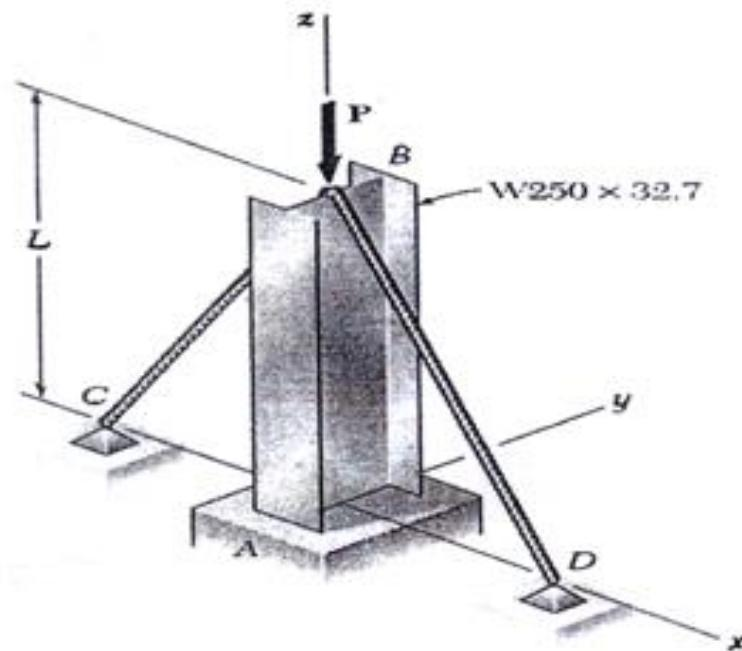

Figure 9
- (b) Column AB carries a centric load P of magnitude 72 kN (Figure 9). Cables BC and BD are pinned at point C and D, respectively, and prevent motion of point B in xz-plane. Point B is free to move in yz-plane, and point A is fixed. Using Euler's formula and a factor of safety of 2.3, and neglecting the tension in the cables, determine the maximum allowable length L of column AB. Use  $E = 200\text{ GPa}$ . Section properties of W250 x 32.7 are given as follows: